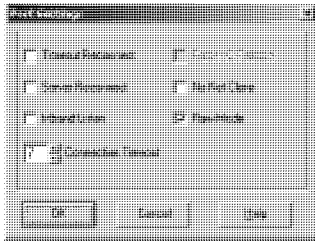

Figure 25: Port Settings Window
7. Click the **Port Settings** button. The Port Settings dialog box appears. Figure 25 shows the Port Settings dialog box and Table 8 describes its settings.